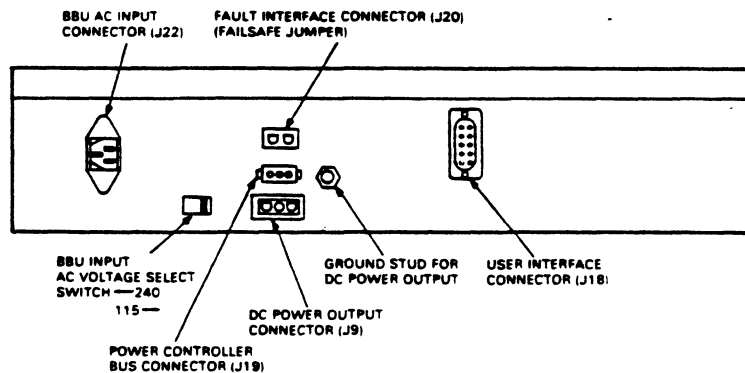

FIGURE 2-27 BBU REAR PANEL
5. Set the rear BBU AC VOLTAGE SELECT to match the front panel VOLTAGE SELECT switch setting. See Figure 2-27.